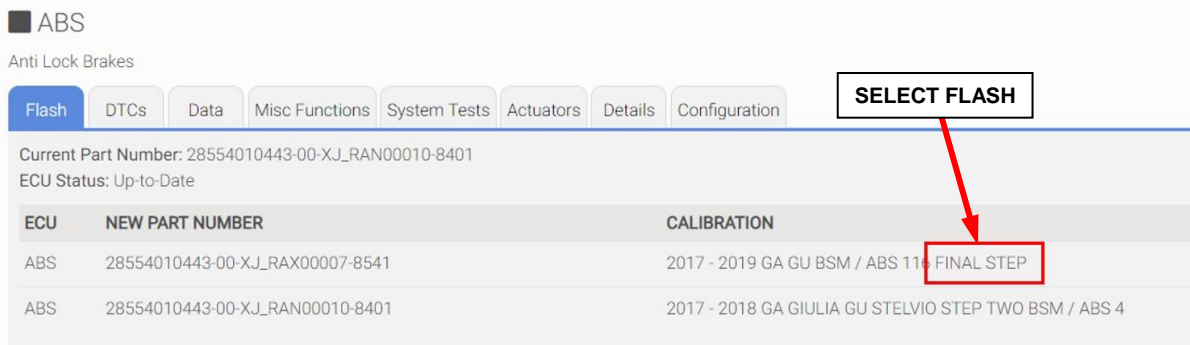

Figure 8 – Third Flash ABS / BSM “FINAL STEP”
26. From the ABS flash tab, select the ABS flash “**FINAL STEP**” and proceed with the third reprogramming procedure (Figure 8).